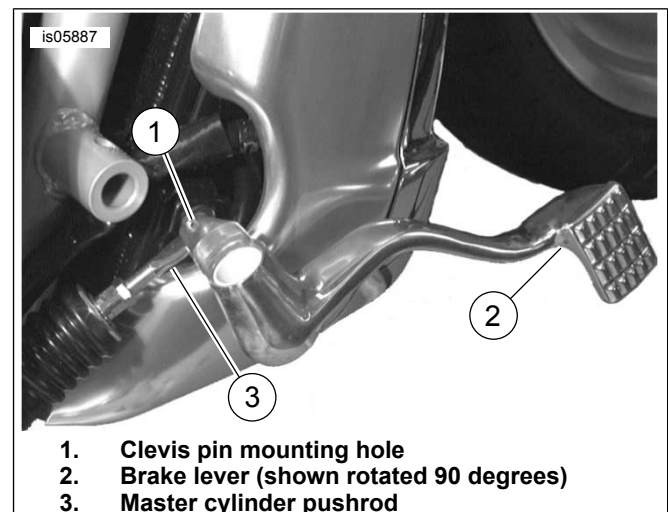

Figure 2. Remove Cotter Pin and Clevis Pin
3. See Figure 2. Rotate the brake lever back 90 degrees to ease cotter pin removal.